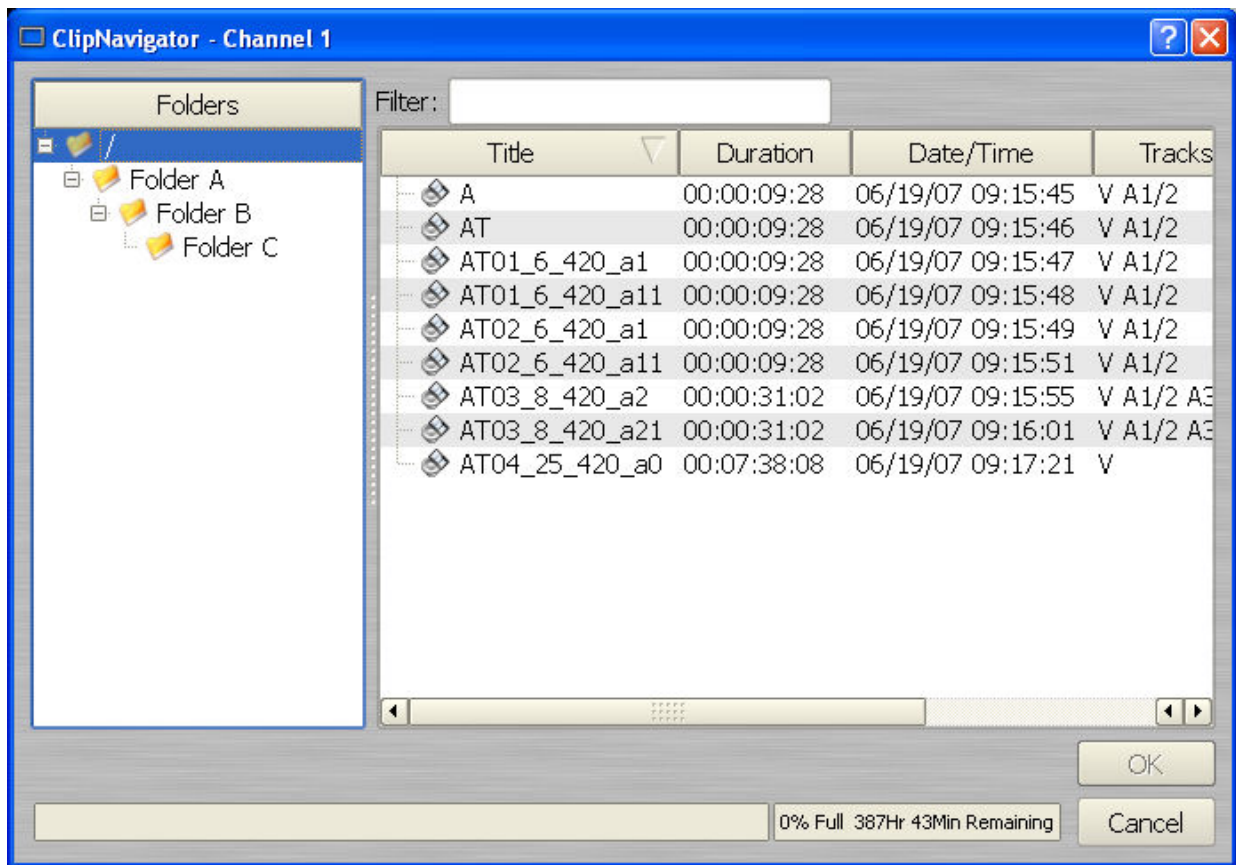

Figure 14 - Channel 1 Clip Navigator in "Open" Mode
- Select **FILE->OPEN** from the Transport Window of Channel 1,2 ,3 or 4. The Clip Navigator will appear per Figure 14.